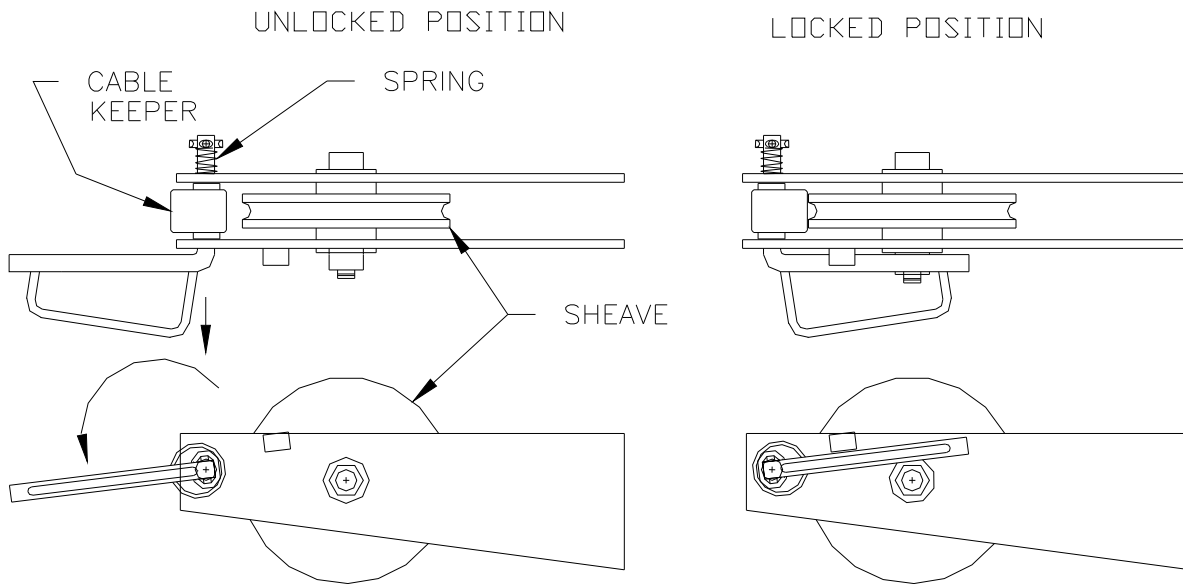

Figure 3-8.
4. Using a step ladder (not an extension ladder) with OSHA compliant fall protection, reeve wire rope through guide on Winch and then through pivot sheave. At top of Boom, unlock cable keeper by pulling out handle and rotating it counterclockwise as shown in Figure 3-8. Insert wire rope between cable keeper and sheave. Lock cable keeper in position by pulling out handle and rotating it clockwise as shown in Figure 3-8. This handle is spring loaded and has to be pulled out to rotate in either direction.